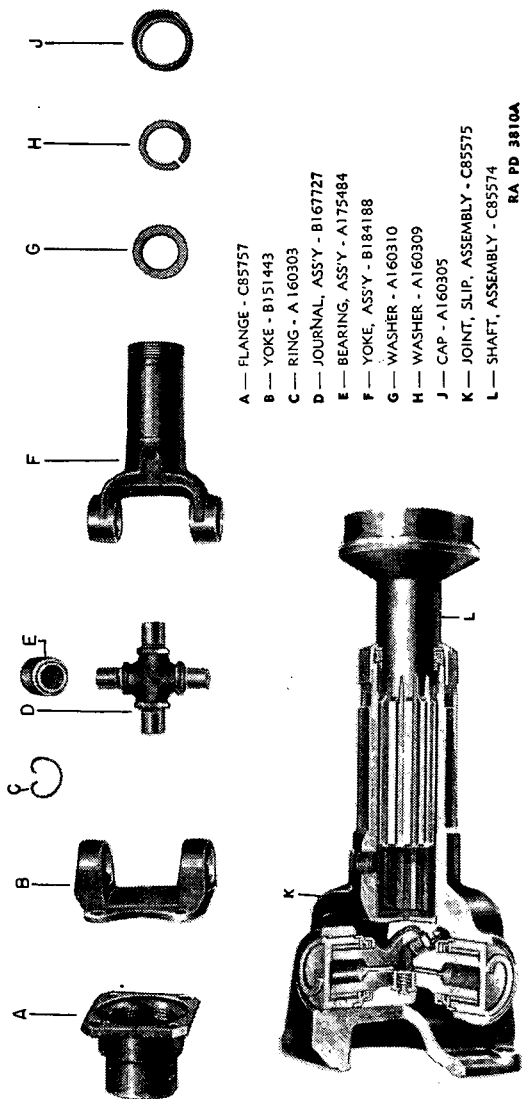

FIGURE 71.—Front axle propeller shaft, exploded.
(4) Secure brake— $\frac{9}{16}$ -inch open end wrench, $\frac{9}{16}$ -inch socket wrench. Re-insert two flange bolts to secure brake disk and prevent damage from falling.
28. Disassembly of components.—*a. Front axle propeller shaft* (fig. 71).—Tools: thin nose pliers, brass drift, hammer, screw driver.